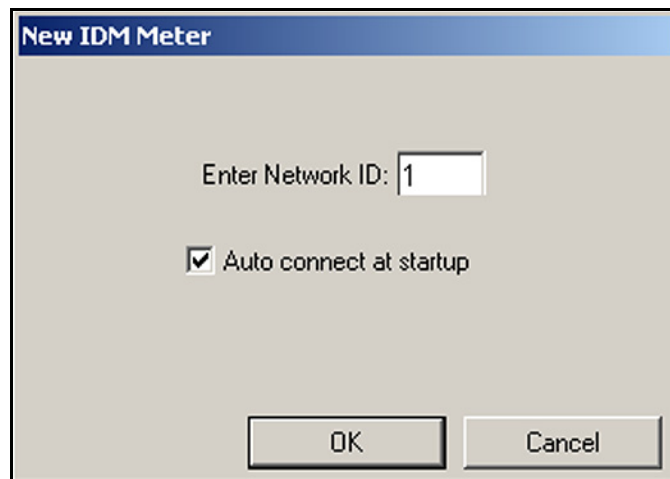

Figure 22: New IDM Meter Screen
4. The "New IDM Meter" screen (shown in Figure 22 below) opens. Enter the *Network ID* number for the meter, and click [OK].